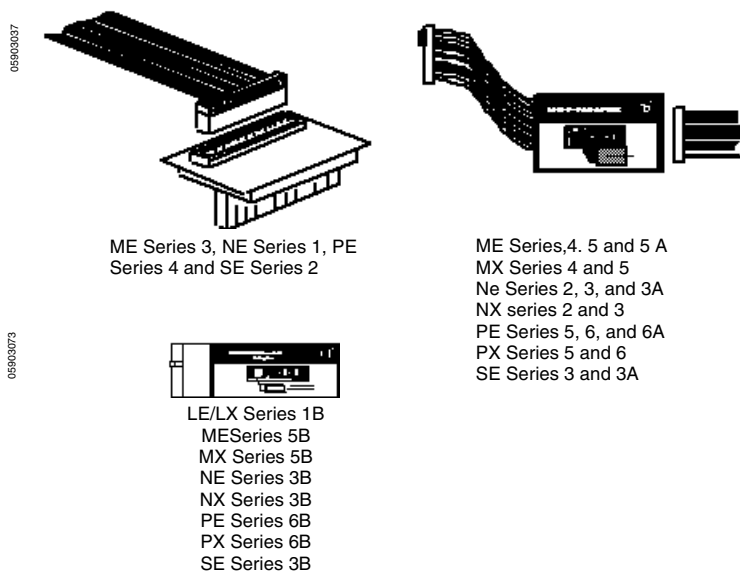

Figure 12: Rating Plug Adapter and M-N-P-S Adapter
13. Carefully insert adapter end of umbilical cord into rating plug adapter or M-N-P-S Adapter (fig. 12) being careful not to bend adapter pins. Note orientation of connector. (Adapters are stored in the power and umbilical cord storage area).